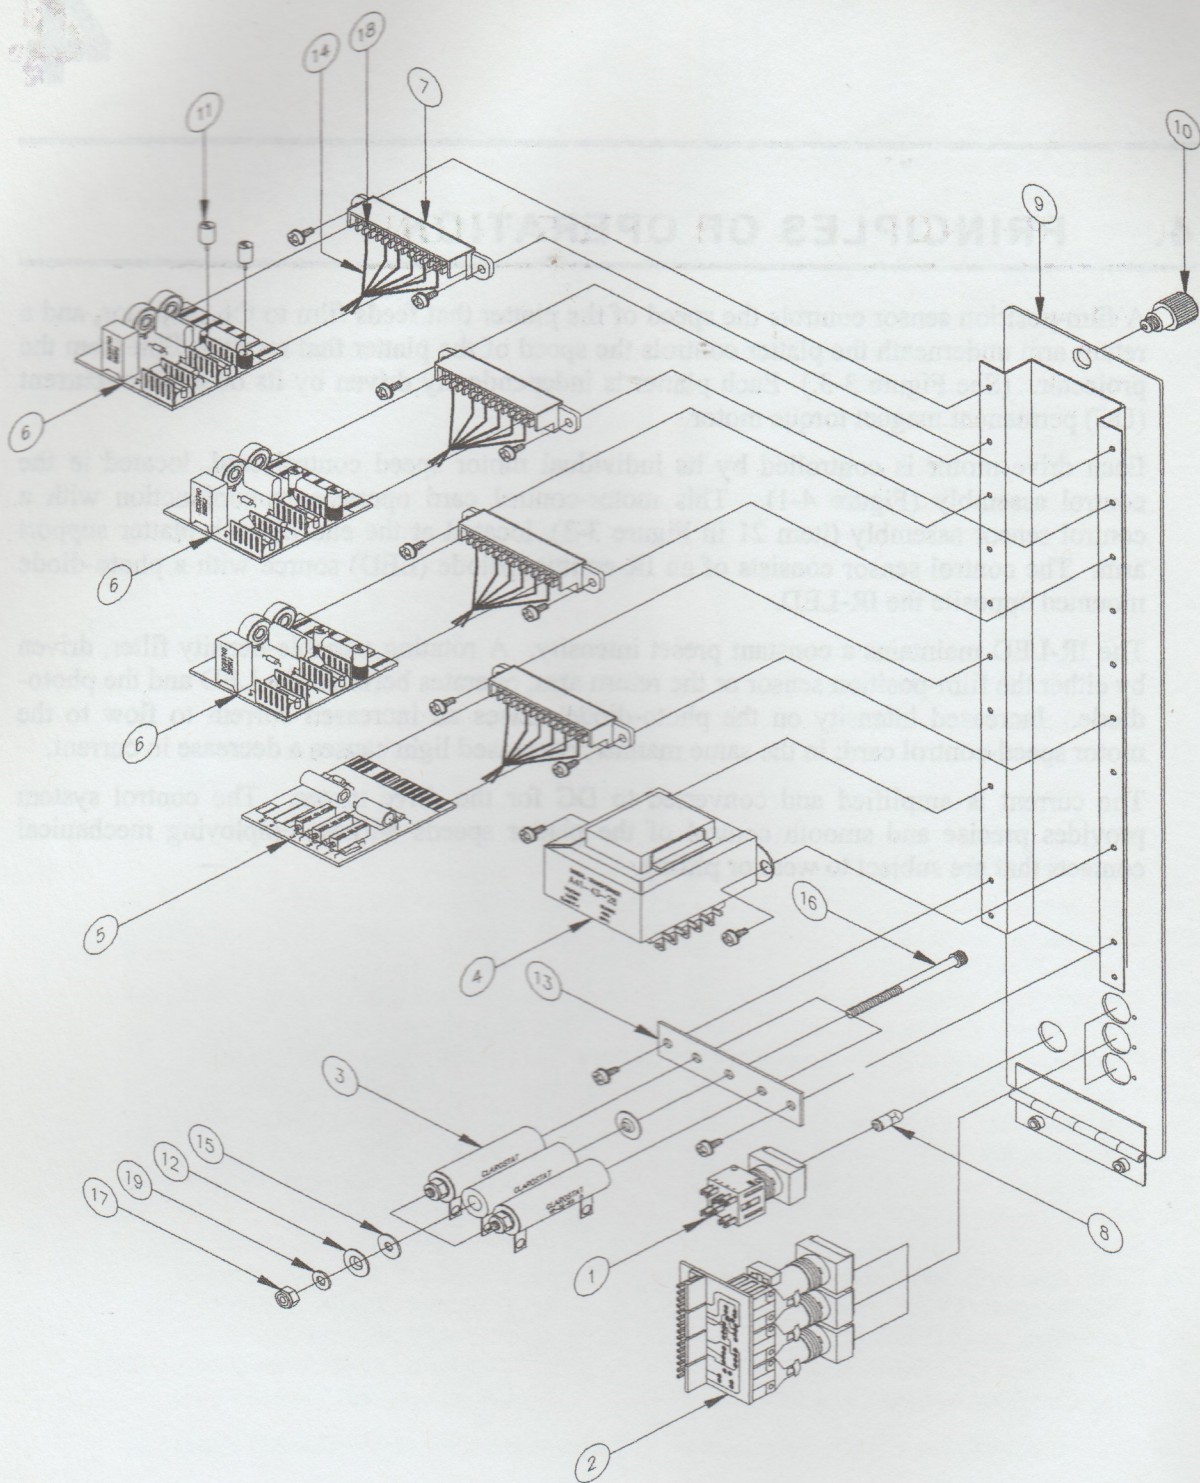

Figure 4-1: Door Panel and Control Modules Assembly Diagram
Each drive motor is controlled by its individual motor speed control card, located in the control assembly (Figure 4-1). This motor-control card operates in conjunction with a control sensor assembly (item 21 in Figure 3-3), located at the end of each platter support arm. The control sensor consists of an IR-emitting diode (LED) source with a photo-diode mounted opposite the IR-LED.